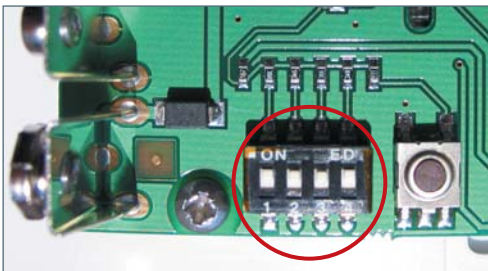

fig.7 - parallel switches
- identify the 4 parallel switches (fig. 7).